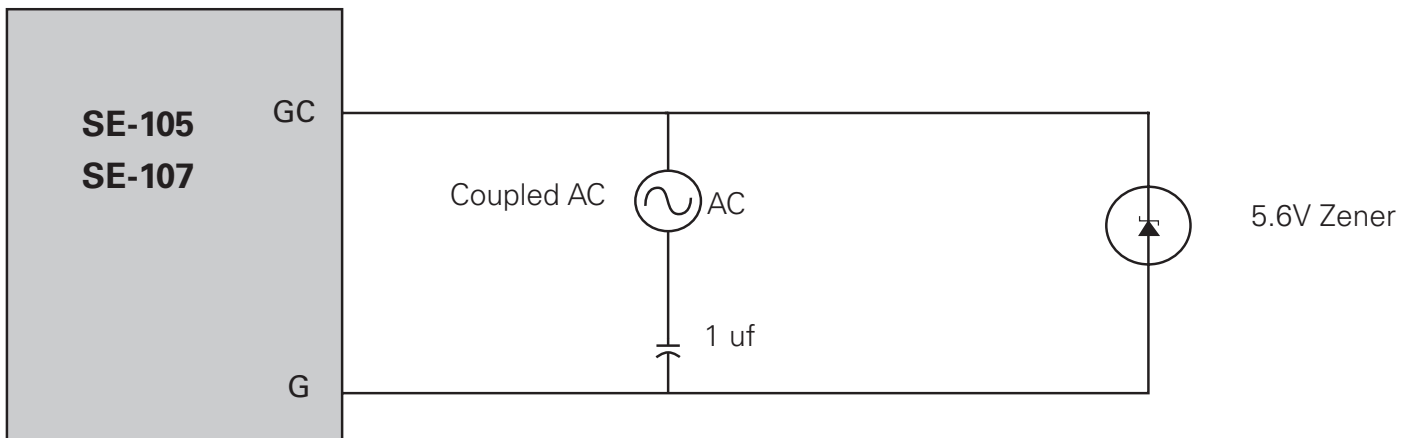

Figure 2
The equivalent circuit in Figure 2 is the circuit that applies when a variable frequency drive (VFD) is used.
For the circuit of Figure 2, a noise current of 100 mA will cause the SE-105/107 to trip. At the point of trip, the GC to G voltage at the SE-105/107 end is 3 Vdc.
- Since the coupled ac of Figure 2 is a function of carrier frequency, some improvement may be gained by reducing the carrier frequency to a minimum value.
- Input reactor filtering reduces noise coupled back to the source which will improve performance on other neighbouring GC circuits. Although a drive may be connected to a short motor cable, the VFD noise is reflected back on the power cables and will flow in the capacitance of other connected cables. If these cables are long, the condition in Figure 2 may be present and can cause nuisance trips.